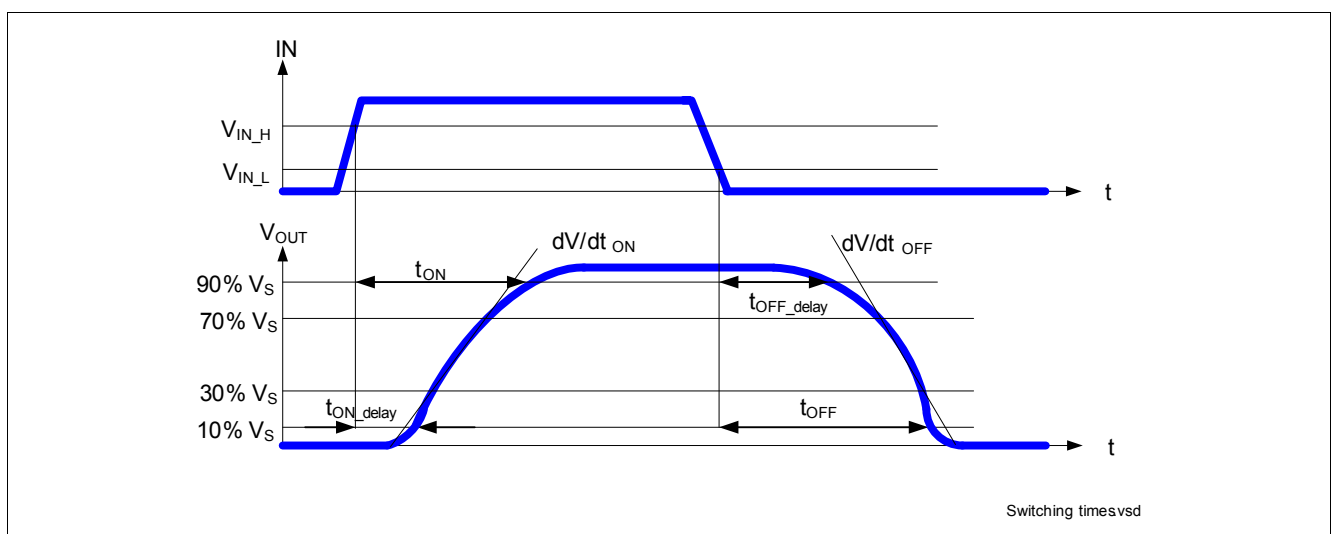

Figure 9 Switching a Resistive Load Timing
**Figure 9** shows the typical timing when switching a resistive load.
| Slew rate30% to 70% $V_S$                                   | $dV/dt_{ON}$     | 0.20   | 0.47 | 1.0  | V/μs | $R_L = 25\ \Omega$$V_S = 13.5\text{ V}$See <a href="#">Figure 9</a>See <a href="#">Chapter 9.1</a>      | P_5.5.11 |